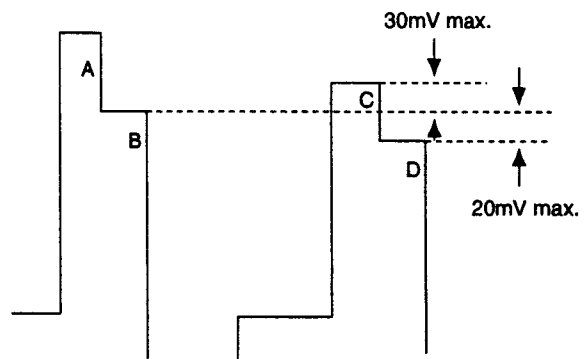

Fig. 5-13
3. Connect the probe of an oscilloscope to IC404 ④ PIN or TP401.
5. Adjust **R-Y LEVEL COMPONENT** so that the peaks of waveforms will be flush with each other as shown in Fig.5-13.